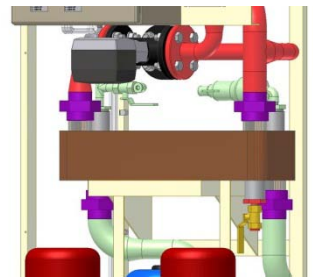

Figure 6.2-2
1. Drain both the primary circuit and the secondary circuit. The secondary circuit is drained through the V163 valve (marked yellow in Figure 6.2-2). The primary circuit is drained through the valves V301 and V302 (refer to the P&ID in Figure 4.2-2).
Disconnect the primary and secondary circuit connections (marked violet in Figure 6.2-2) from the unit. The connections can be opened with a box wrench.